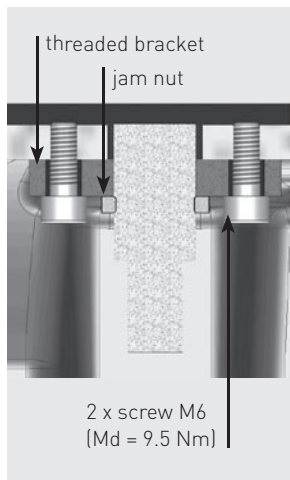

Figure 8.2
6. Secure trailer plate sensor with bracket, lock washer, and 2 M6 screws. Important: The sensor must stop level to the coupler plate. (see Fig. 8.2 and 8.3) For the version with threads on the trailer plate sensor (Fig. 8.2), the bracket with the number 662 129 195 must be used. The sensor is to be secured with the jam nut instead of the lock washer.